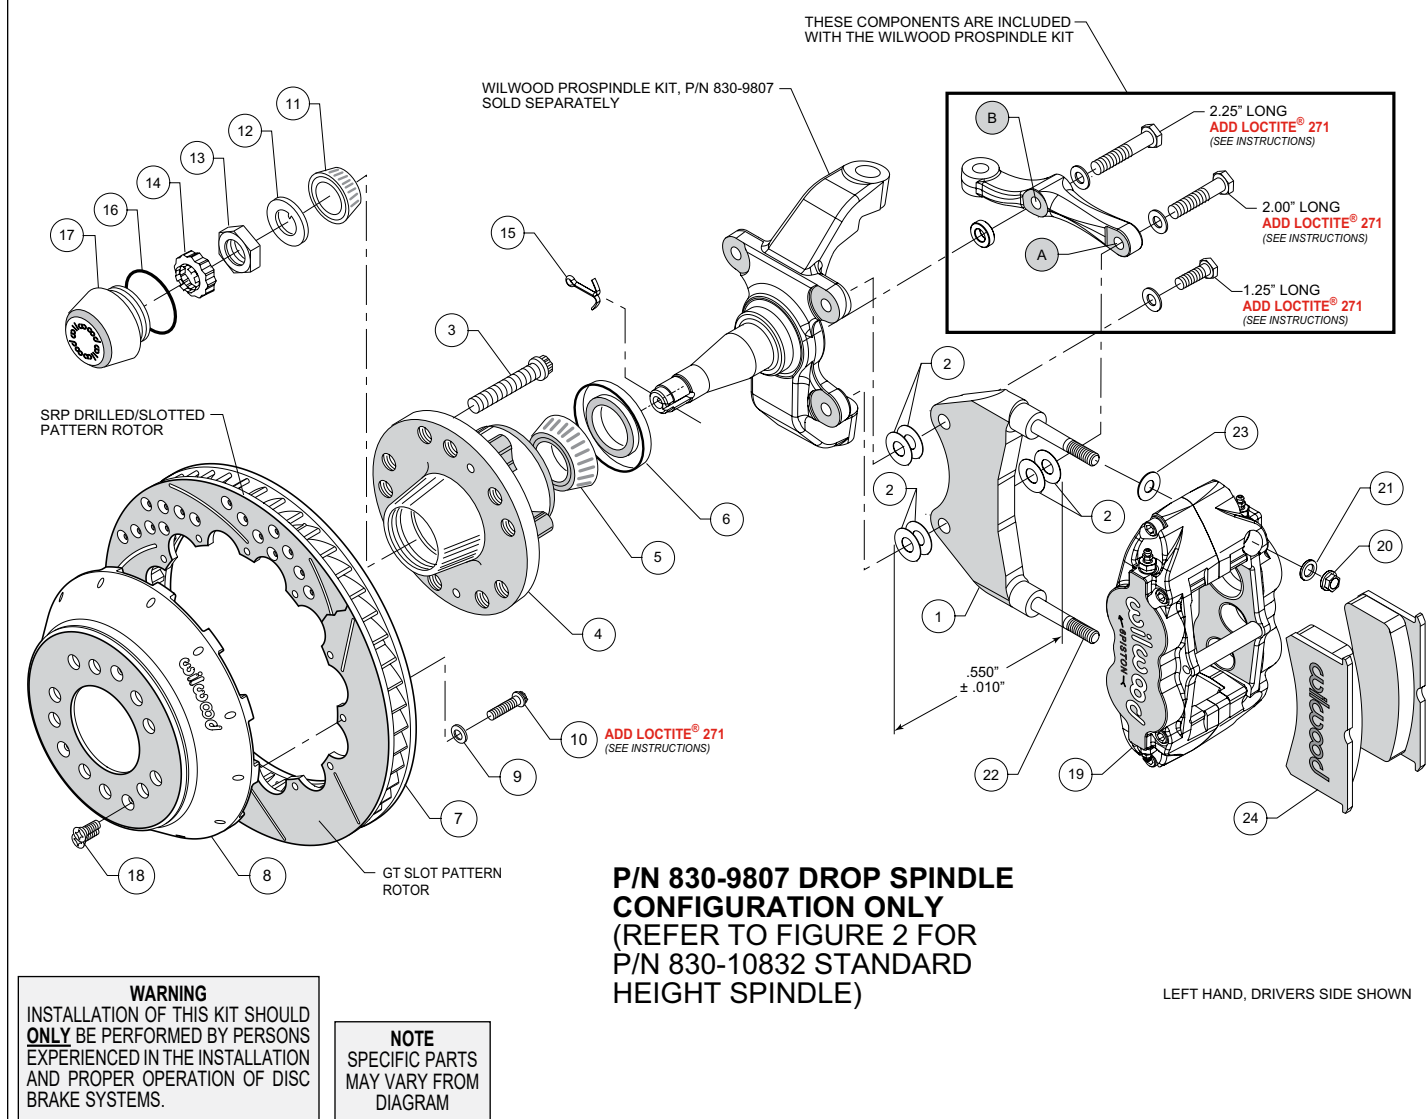
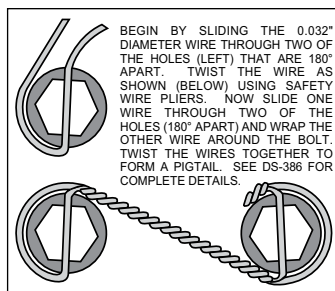

Figure 1. Installation Configuration For Drop Spindle, P/N 830-9807
Figure 4. Safety Wire Diagram
NOTE: Numbers in parenthesis refer to the parts list and Figure 1 on the preceding pages.
•**NOTE:** Each Wilwood ProSpindle kit includes bolts, washers, and a spacer to mount the steering arm and caliper bracket. The various bolts are identified by length in the following instructions and in Figures 1 and 2.
- Orient the bracket as shown in Figure 1 and Photo 1. Install at top spindle hole using 1.25" long bolt and .06" thick washer (from ProSpindle kit), and two .016" thick shims (2) between the bracket and spindle, Figure 1.
- Orient the steering arm, and identify the hole marked 'A', as shown in Figure 1. Install at bottom spindle hole using 2.00" long bolt and .06" thick washer (from ProSpindle kit), two .016" thick shims (2) between the bracket and steering arm, and another two .016" thick shims (2) between the bracket and spindle, Figure 1. The bracket is located between the steering arm and spindle. **NOTE:** The bracket and shim washers must add up to a total thickness of .550" $\pm$.010", Figure 1.
- Finish attaching the steering arm through the hole marked 'B', as shown in Figure 1. Install using 2.25" long bolt, .06" thick washer, and .25" thick spacer (all from ProSpindle kit), Figure 1.
- Orient the rotor (7) and the hat (8) as shown in Figures 1 or 2, and Photo 6. Attach rotor to hat using bolts (10) and washers (9). Apply red *Loctite*® 271 to the bolt threads and torque to 155 in-lb using a criss-cross pattern. For an added measure of security, the bolts may be safety wired using standard 0.032 inch diameter stainless steel safety wire as shown in Figure 4. Refer to Wilwood's data sheet DS-386 (available at www.wilwood.com/Pdf/DataSheets/ds386.pdf) for complete safety wire installation instructions.
- **NOTE:** This kit contains distinct right and left hand calipers that must be mounted in a specific direction, as described below. Initially place one .035" thick shim (24), and spacer (23) on each stud (22) as shown in Figure 1 or 2, and Photo 7. Mount the caliper (19) onto the bracket (1) using lock nuts (20) and washers (21), Figure 1 or 2. Ensure that the caliper is mounted so that the largest pistons are at the rotor exit end of the caliper, in relation to the direction of rotor rotation. Temporarily tighten the lock nuts and view the rotor through the top opening of the caliper. The rotor should be centered in the caliper, Photo 8. If not, proceed as follows:
- Adjust by adding or subtracting shims (2) between the bracket and the spindle. Always use the same amount of shims on each of the two bolts between bracket and spindle.
- For the lower bracket mount bolt, if a shim was added between the bracket and spindle, then a shim must be removed between the steering arm and bracket, such that the total thickness of bracket and shims remain equal to $.550 \pm .010$ ", Figure 1.